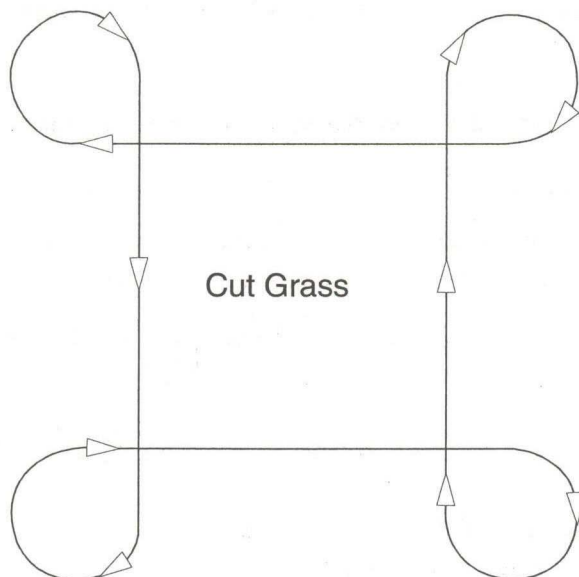

Figure 28
4. Follow the mowing path shown below. (See Figure 28).